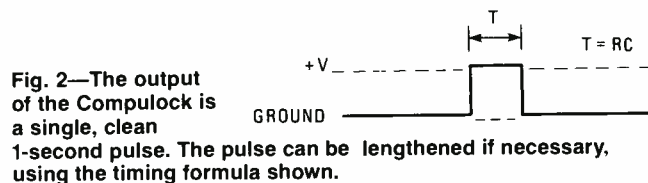

Fig. 2—The output of the Compulock is a single, clean 1-second pulse. The pulse can be lengthened if necessary, using the timing formula shown.
The automatic reset does pose one remote problem. Depending upon how fast you are at punching in the combination, the fourth flip-flop's output pulse could range from 1 millisecond to 4 1/2 seconds long. To eliminate that variance, and to ensure that the output pulse isn't too short to operate the circuitry that follows, the output of U3-b is fed to the positive trigger input (pin 12) of U1-b. So, no matter how long or short the flip-flop's output pulse, Compulock always outputs a clean 1-second pulse (Fig. 2.). In addition, the unused keys, S5-S8, are tied to the reset (R) inputs of the flip-flops, so that a press on any one of those keys automatically nullifies any previous correctly entered digit. Therefore, any-